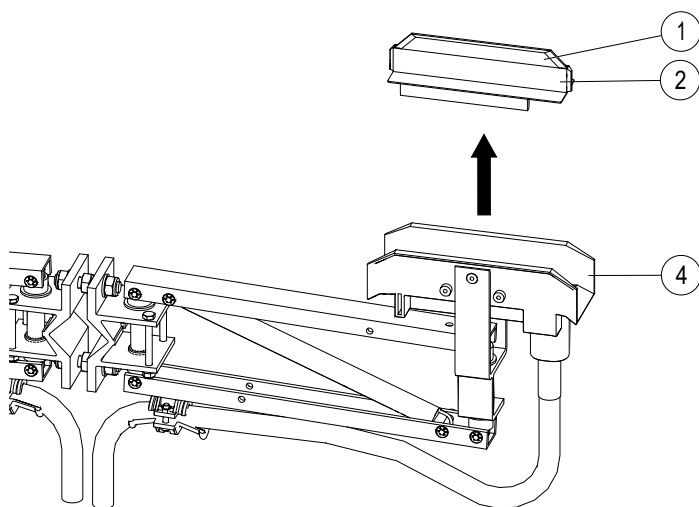
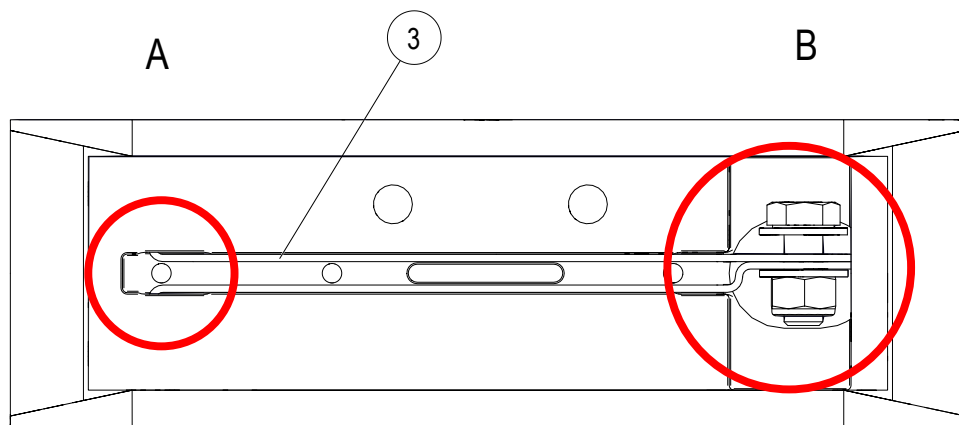
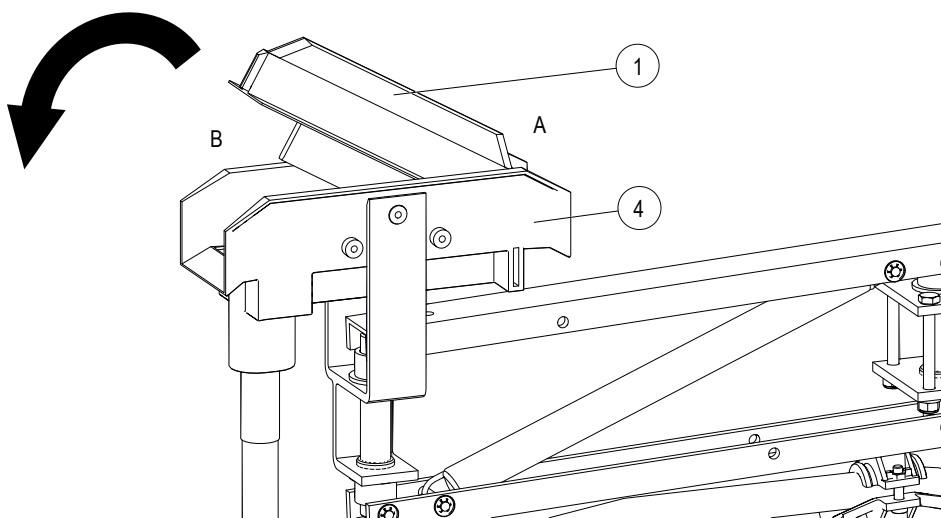

Fig. 125: Remove sliding contact (item 1) and plastic insulator (item 2)
Fig. 126: Widest side (A) and narrowest side (B) of the contact sheet (item 3)
Fig. 127: Sliding contact recess on the side of the cable
To replace the sliding contact (item 1) (see Fig. 125), the following steps must be carried out:
- Hold the current collector head and pull out the sliding contact (item 1) with its plastic insulator (item 2) using water pump pliers. Start pulling out on the widest side (= side A in Fig. 126) of the contact sheet (item 3) (see Fig. 125 and Fig. 126).
- Clean the area under the plastic insulator (item 2), especially the contact surface of the contact sheet (item 3) (see Fig. 126).
→ Manually press the new sliding contact with its plastic insulator into the sliding contact insulation (item 4) (see Fig. 127). Start at the widest side of the contact sheet (side A in Fig. 126) and then insert the sliding contact completely while turning it. Do not use any tools (e. g. hammer) when pressing in, as this may damage the contact surfaces of the sliding contact. The following must be observed during insertion:
- The sliding contact recess (item 1) must be located on the side of the cable (side B) (see Fig. 127).